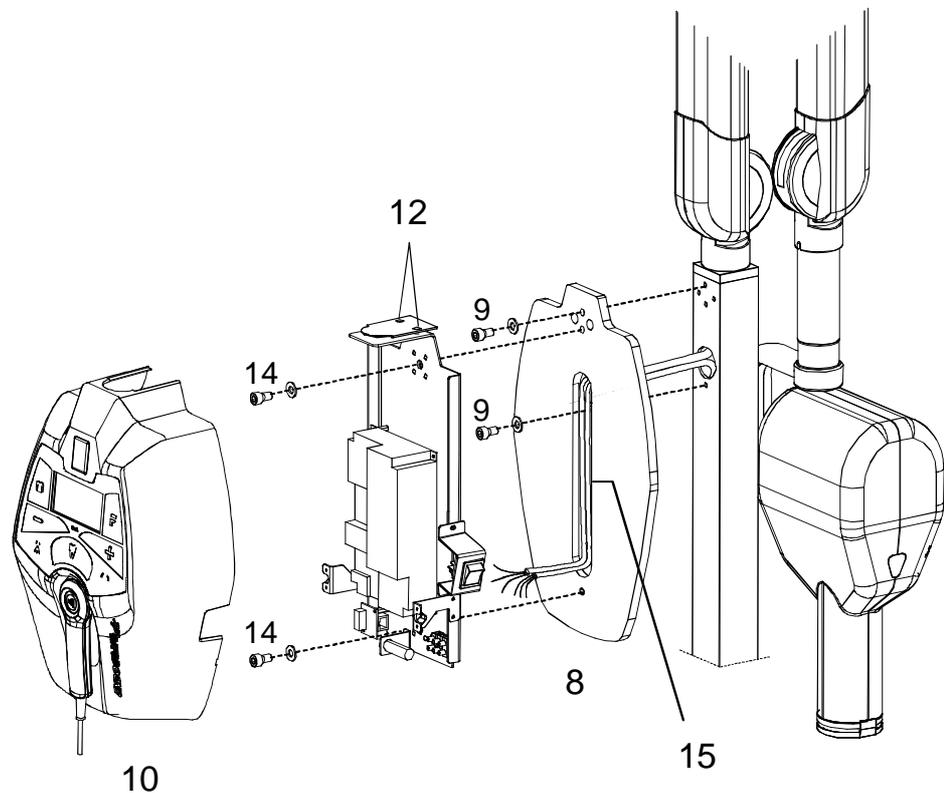

Figure 6-3
5. Assemble the timer support plate (**8** - Figure 6-3) to the stand column, fixing it with the two screws (**9** - Figure 6-3) present on the stand column.
6. Remove the plastic timer cover (**10** - Figure 6-3) by loosening the two sealing screws (**12** - Figure 6-3) placed on the top. To make the operation easier, disconnect all cables connecting the timer and the plastic cover.
7. Fix the timer onto the support plate with the two screws (**14** - Figure 6-3) taking care to thread the supply cable and the cables coming from the scissors arm inside the hollow one (**15** - Figure 6-3). Check that the upper level is level using a bubble level.